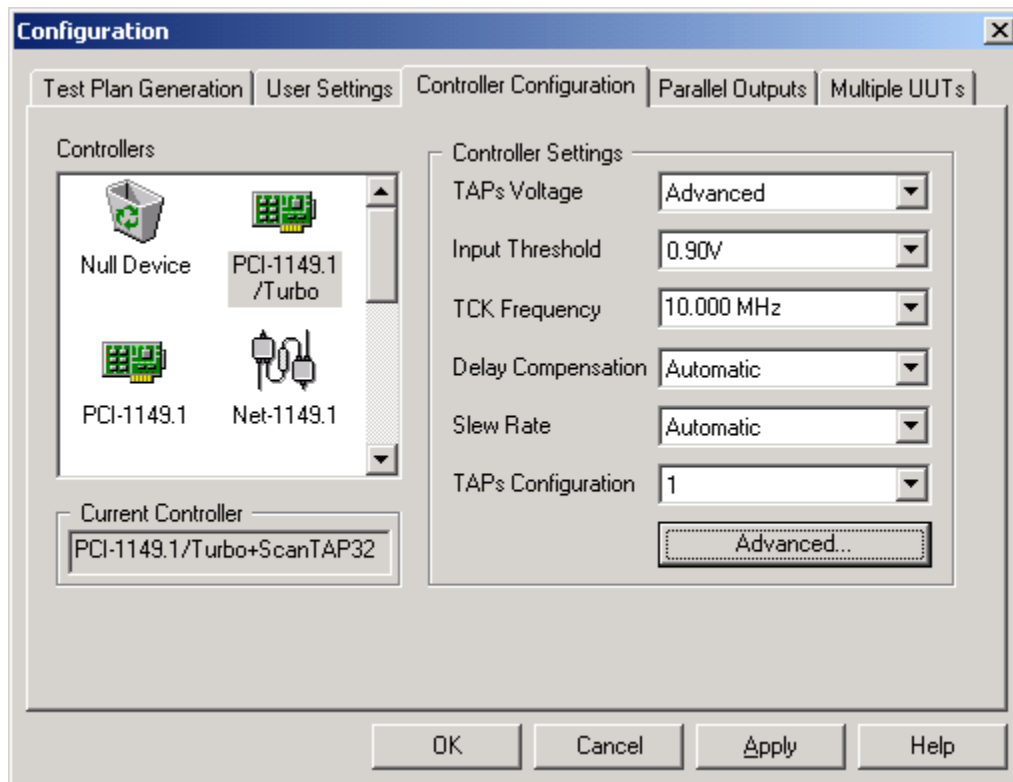

Figure 2-4. Controller Configuration Window
The ScanTAP-32 implements a scaled architecture. One ScanTAP-32 module contains the logic of a ScanTAP-4 times eight (8). The TAP and I/O output voltage attribute is shared amongst each of the 8 blocks. There are four TAP output voltages, labeled TAP1, TAP2, TAP3, TAP4. These control TAP(4*N+1), TAP(4*N+2), TAP(4*N+3), TAP(4*N+4) for N=0,1,2,3,4,5,6,7. The TDO threshold voltage from the target may also be configured (although usually it is adequate to leave the setting as automatic). To set these voltages go to the ScanExpress Runner or ScanPlus Runner main window. Select **Setup** select **Controller** as shown in Figure 2-4